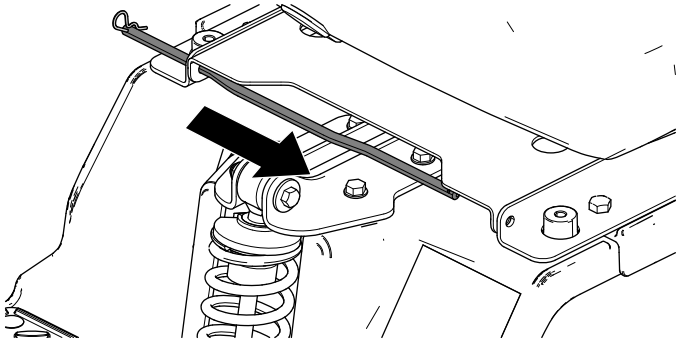

Figure 8
4. Install a hairpin cotter on 1 side of the seat-pivot rod, then slide the seat-pivot rod through the pivot bracket hole and seat pan hole (Figure 8).